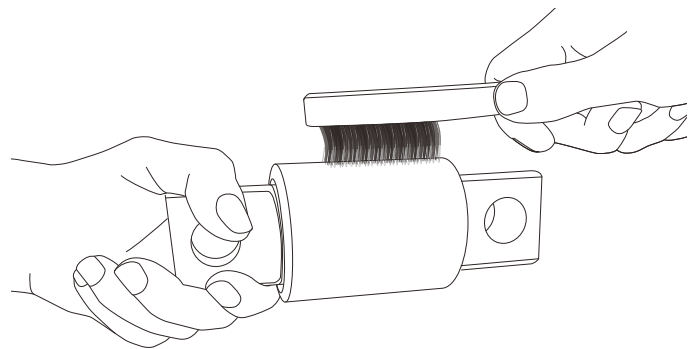

Figure 76: Lubricate D-Pin Bush
2. Lubricate the support beam D-Pin bore and the D-Pin bush metal retaining sleeve with chassis grease. Refer Figure 76.